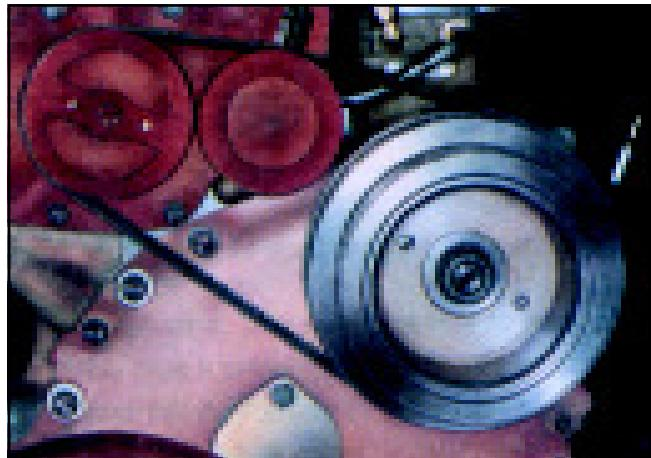

Fig. 3-3. Water pump with idler on NH/NT series engine
1. Loosen locknut securing idler pulley to bracket or water pump. Fig. 3-3.